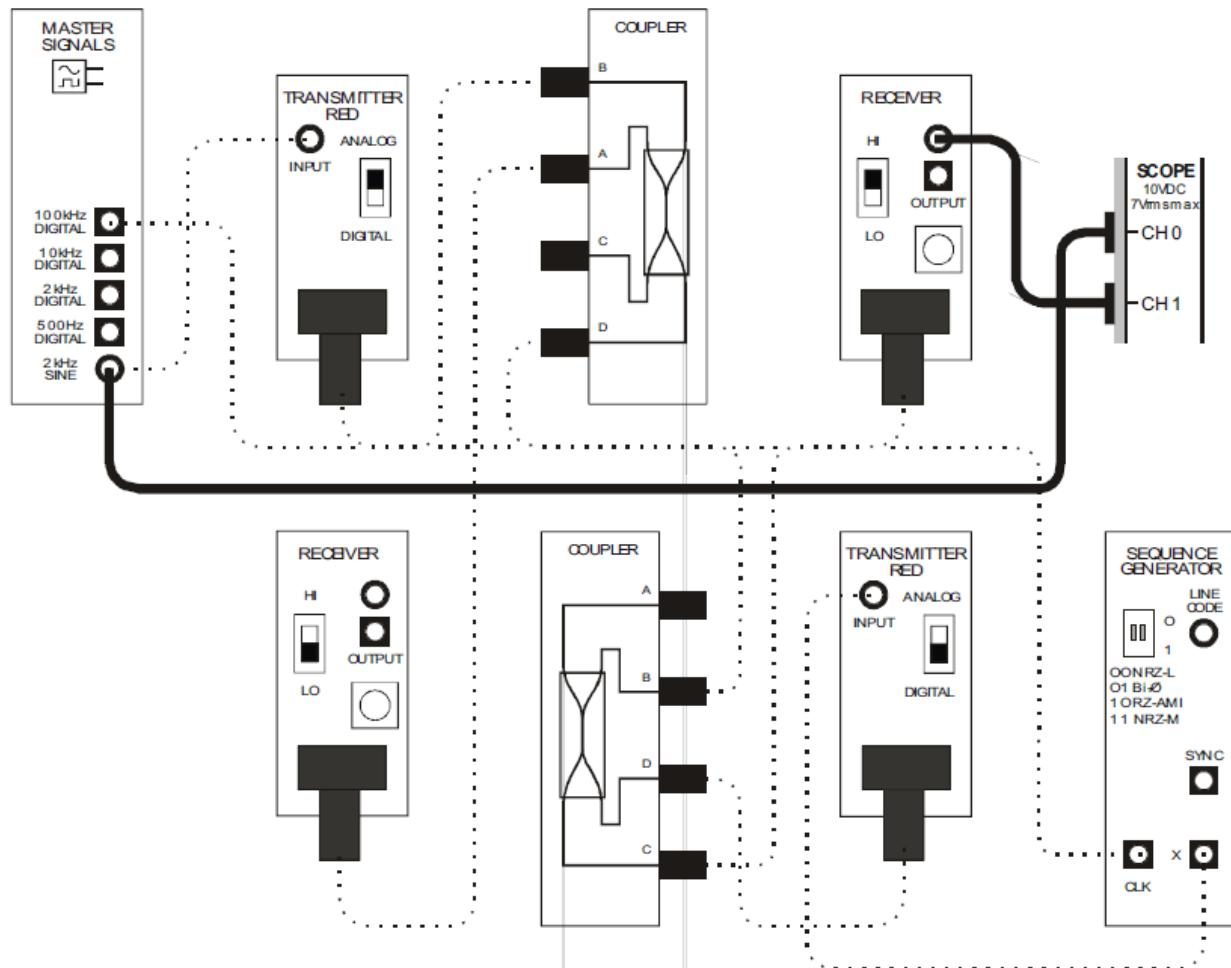
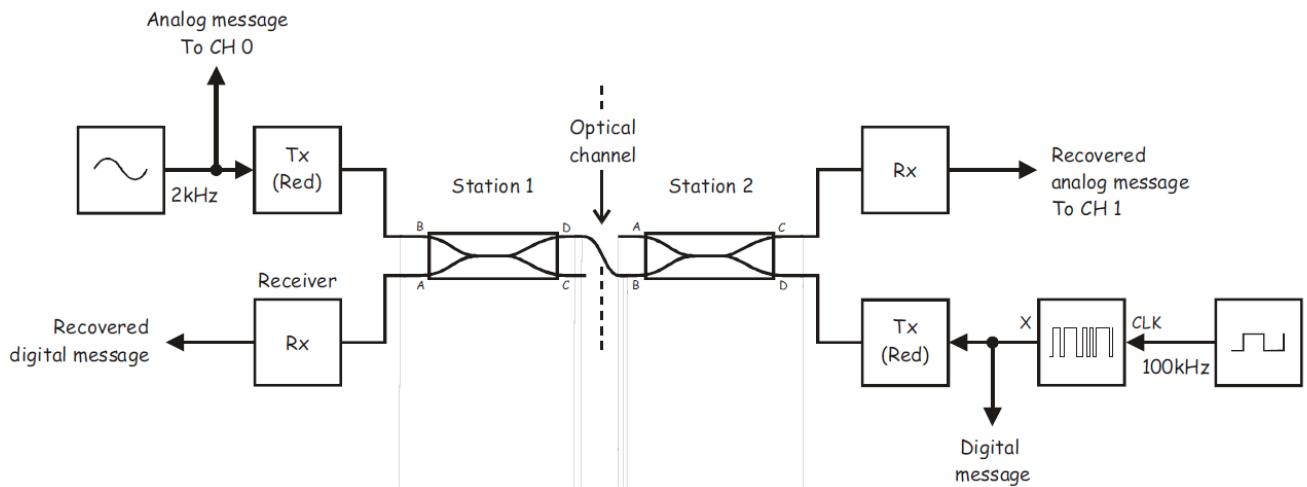

Figure 6
Figure 7
21. Modify the scope's connections to the set-up as shown in Figure 6 below.
The changes to the scope's connections in Figure 6 can be represented by the block diagram in Figure 7 below. The change has been made to observe the analog message and the recovered version of it.